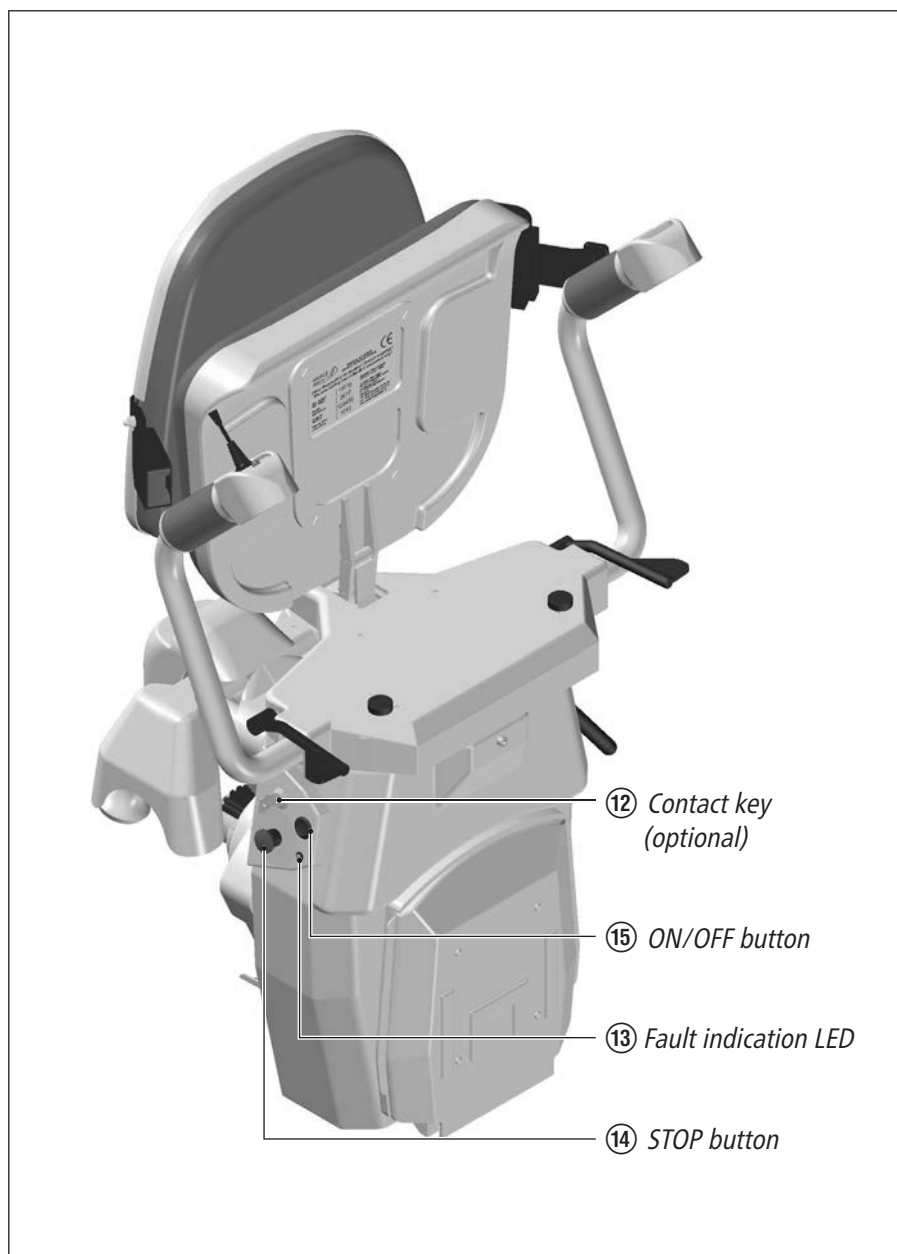
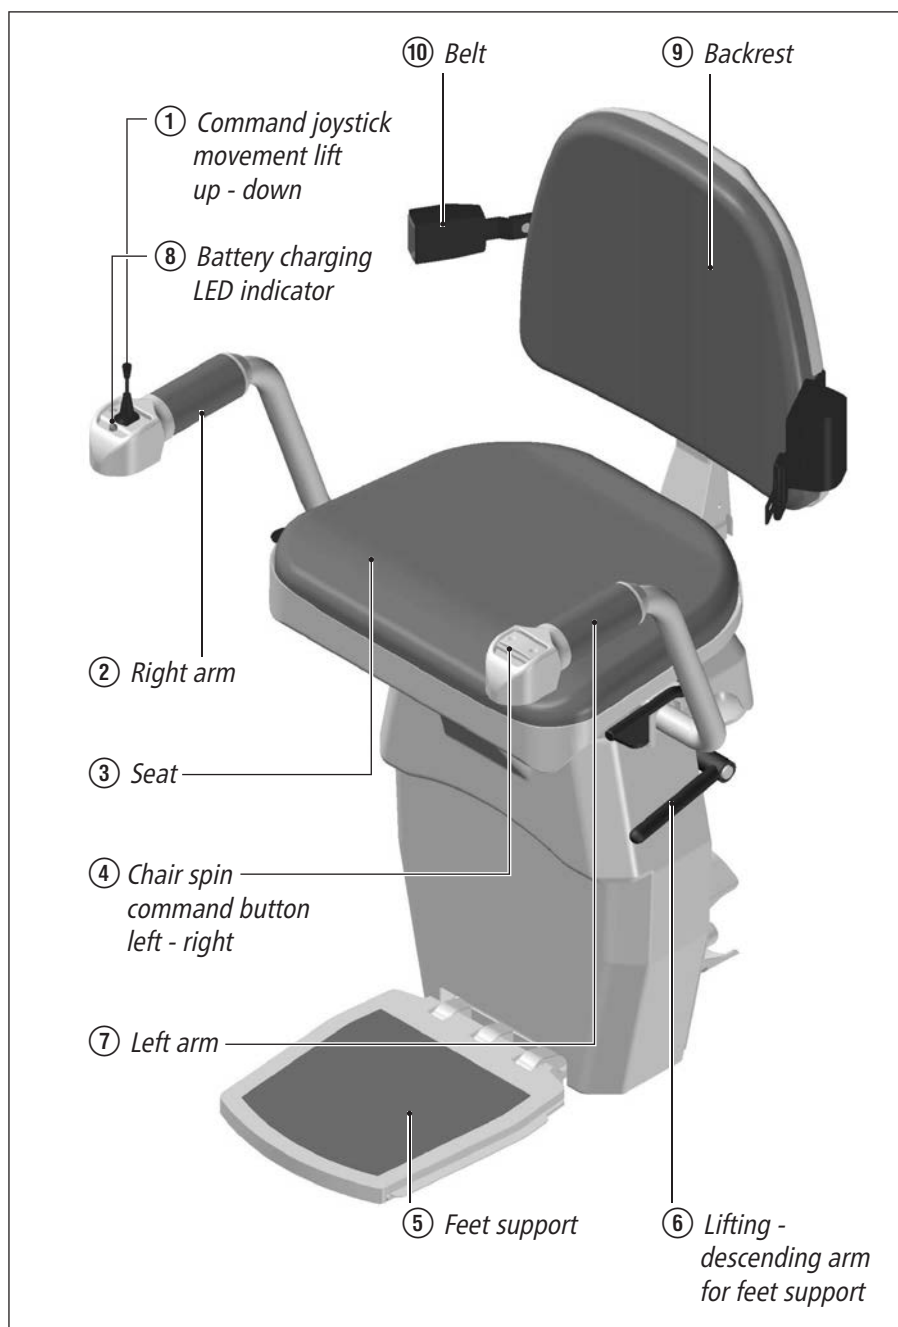

Fig. 4
Fig. 5
- bring down the arms ② and ⑦ from the vertical position, as shown in fig. 4, to a horizontal position, as shown in fig. 5.
- the same applies to the seat ③
- by lifting the handle ⑥, you can also tilt the foot rest ⑤ from a folded position fig. 4 to a use position fig. 5; after that, you can get on the lift. Starting and moving the lift is made by moving the joystick ① fig. 5, as follows:
- to stop the lift at either end of the track, the control joystick must remain actuated until the lift reaches the charging contacts and stops on its own, followed by the blue LED ⑧ on the joystick arm lighting up, this indicating that the battery is charging from the power supply
- when the travel ends and the top of the track is reached, the seat ③ with backrest and arms ② and ⑦ fig. 5 are rotated to max. 90° to facilitate the user to get on and off the seat. The standard elevator has a fixed seat. Optionally it can be equipped with a manual rotation of the seat. Next are the steps for using this function:
This movement is controlled by button ④ fig. 5, as follows:
- lift the seat ③, arms ② and ⑦, press the handle ⑥ fig. 5, then, using the remote, send the lift in the parking area
The LED ⑬ fig. 4 signals using a certain code (flashes) any possible malfunction. Communicating this code (how many times the LED flashes on and off) to the authorized lift maintenance company, interventions can be performed more quickly and effectively to remedy the situation.